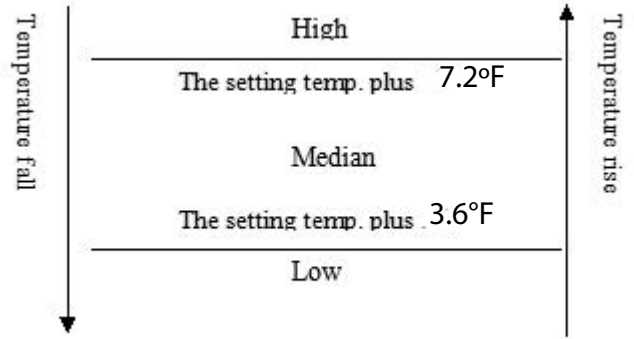

Figure 303
(1) When the indoor fan is running, this operation state could be controlled by the remote control with High, Medium, Low and Automatic setting.
(2) When the appliance is set to the automatic condition in the Cool mode for the first time, the fan speed will run at Low setting. After that, temperature and fan speed will run as shown in figure 303.